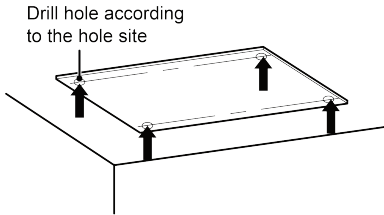
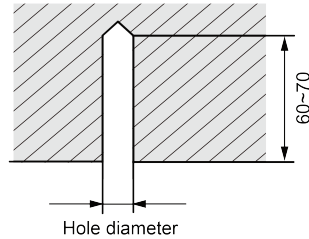

Fig.2
Fig.3
- 1) Stick the reference cardboard on the installation position; drill 4 holes according to the hole site on the cardboard as shown in Fig 2; diameter of drilling hole is according to the diameter of expansion bolt and the depth is 60-70mm, as shown in Fig 3.